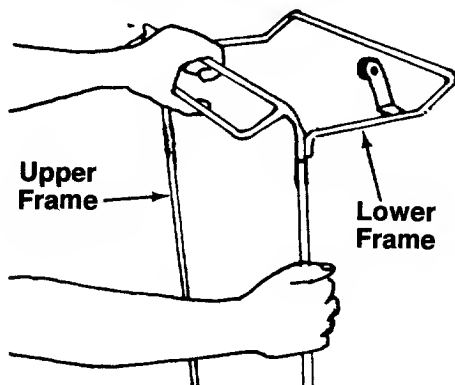

FIGURE 12.
- Join the upper frame and lower frame assembly as shown in figure 12.